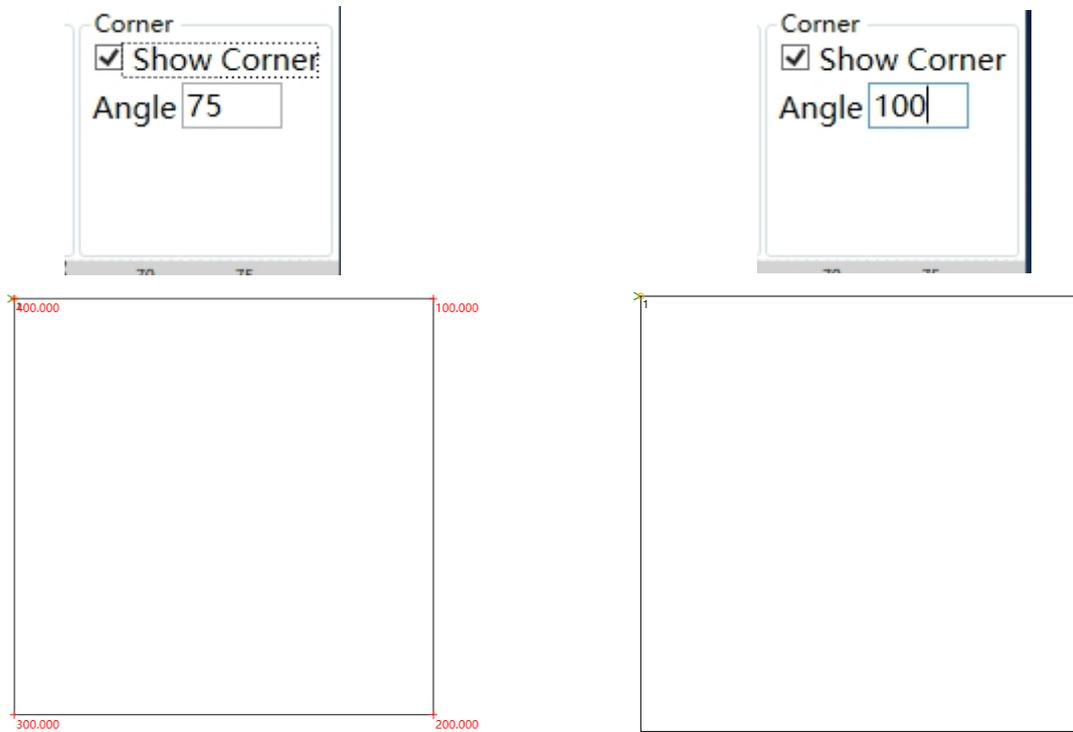

Fig. 5.6.10c Schematic Diagram of Corner Display Operation
② Enter the set value into the "Angle" parameter box, taking 75 and 100 as examples. After pressing Enter, the angle position that meets the set value will display the value, and those that do not meet the requirements will not be displayed. As shown in Fig. 5.6.10c below.